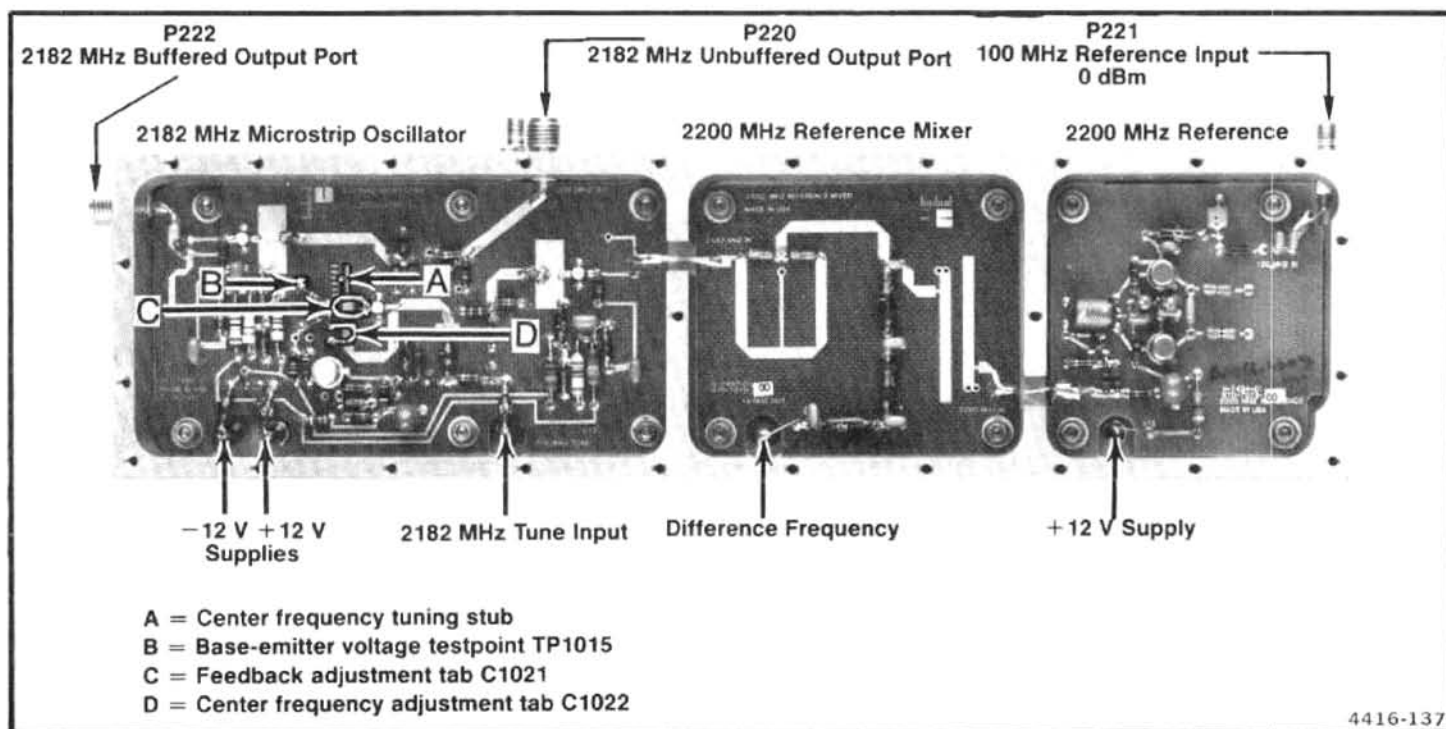

Figure 6-20. Adjustments and test point locations within the 829 MHz Converter oscillator section.
d. Install a 50 Ω terminator on the 2182 MHz buffered output port, P222, (see Figure 6-20). Set the variable power supply to 0 V. Connect the plus (+) terminal to the 2nd LO housing and the negative (-) terminal to the exposed end of C2203 and L2031, through a 1 k Ω resistor.
g. Bend the feedback and frequency adjusting tabs, C1021 and C1022 (see Figure 6-20), with your finger so they are approximately 30° above the board surface.
2. Adjust and Check Oscillator Frequency (Refer to Figure 6-20)
c. Check V_{be} at TP1015 (B in Figure 6-20). If V_{be} is greater than +0.5 V, push the feedback adjustment tab down slightly and if less than -0.3 V, lift the tab. If V_{be} is greater than +0.8 V, replace the microstrip oscillator board. If V_{be} is more negative than -1 V, check the bias circuitry. Adjust the tab so V_{be} is +0.15 V, ± 0.05 V at TP1015. Do not touch the feedback tab while measuring voltages.
d. Check for an oscillator frequency of 2182 MHz, ± 5 MHz. Bend the frequency adjustment tab C1022 (D in Figure 6-20) to bring the oscillator within tolerance. (Bend the tab up to increase frequency and down to lower frequency.) If unable to bring the oscillator frequency within range, replace the 2182 MHz microstrip oscillator board.
b. Confirm that the output signal frequency is 18 MHz ± 1 MHz. Adjust the tab C1022 (Figure 6-20) for the 2182 MHz Microstrip Oscillator, to bring the 18 MHz within the 1 MHz tolerance.